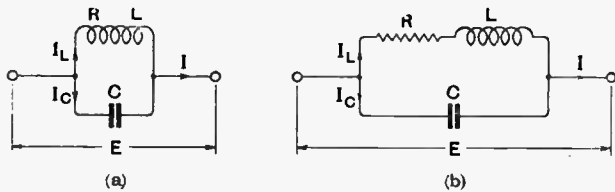
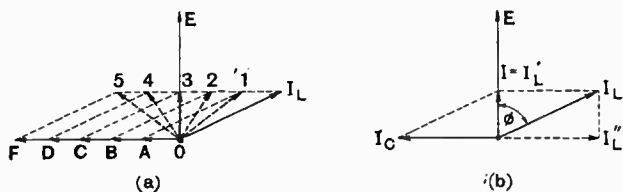

Fig. 1.—Parallel circuit (a) in which the inductance contains resistance and (b) the electrically equivalent circuit.
Fig. 3.—(a) Vector diagram to show that the current is a minimum when in phase with the voltage. (b) Vector diagram of parallel circuit tuned to resonance.
ries connected in series with a pure resistance of R ohms, and thus the parallel circuit of Fig. 1 (a), where the inductance coil possesses resistance R , is equivalent to the circuit of Fig. 1 (b), where the coil L has no resistance and the resistance R is free from inductance.
Suppose now that the capacity C could be varied over a wide range, the frequency being fixed; then the current in the coil would remain unchanged, and the condenser current I_C would be directly proportional to the capacity, so that the resultant current I would vary both in phase and in magnitude. In the vector diagram of Fig. 3 (a) the dotted line vectors, 1, 2, 3, 4, 5, show the resultant current for the several values, OA , OB , OC , OD , OE , respectively, of the condenser current. Now, obviously the shortest of these vectors is No. 3, which is exactly in phase with the applied voltage E , and therefore there is a certain value of condenser current I_C which will make the main current I a minimum, this minimum current being in phase with the applied E.M.F. Under these conditions the impedance Z of the circuit is clearly a maximum. When this occurs the circuit is tuned to complete resonance with the frequency f of the applied voltage. It should be noted here that the conditions are exactly
In tuning a parallel circuit to resonance then we are arranging the circuit to offer the greatest possible impedance to currents of a certain desired frequency or wavelength and to offer a low impedance to currents of other frequencies, and the observations made with regard to selectivity and signal strength in connection with the series circuit can be applied in general to the parallel circuit. The resonance curves showing the relation between frequency and impedance must reach as high a maximum value as possible at the resonant frequency, and the peak must be as sharp and pointed as possible. From the phase relations shown by the vector diagram of Fig. 3 (b) we can find what the necessary conditions are for obtaining the highest possible impedance at the frequency of complete resonance. At this frequency we saw that the result-
The maximum impedance Z of the circuit of Fig. 1, obtained when it is tuned to complete resonance, is equal to the ratio of the applied voltage E to the main current I drawn from the source of supply, *i.e.*, $Z = E/I$ ohms. But from the vector diagram of Fig. 3 (b) we see that $I = I_L \cos \phi = \frac{E}{Z_1} \cos \phi$, from equation (1) above. Therefore the circuit impedance